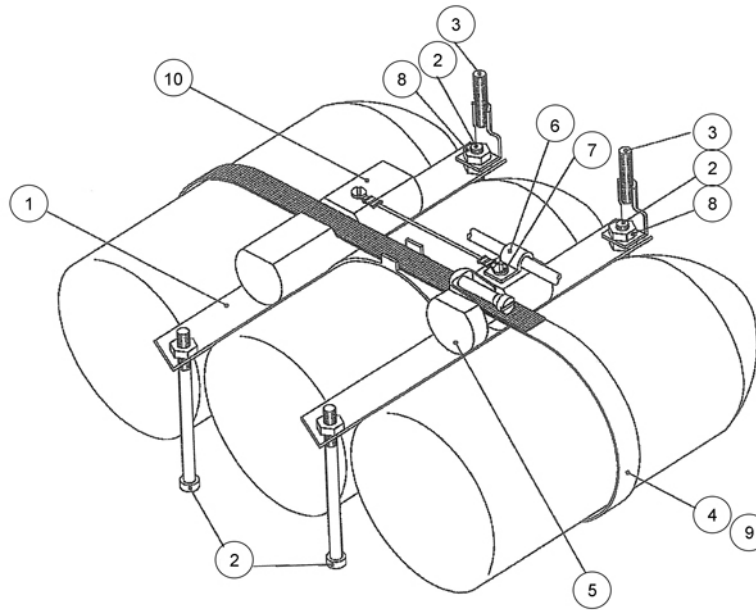

Fig 4.5 Six Monthly Maintenance - Gas Cylinders
- c. Unscrew the four retaining bolts (Fig 4.5, Items 2 and 3).